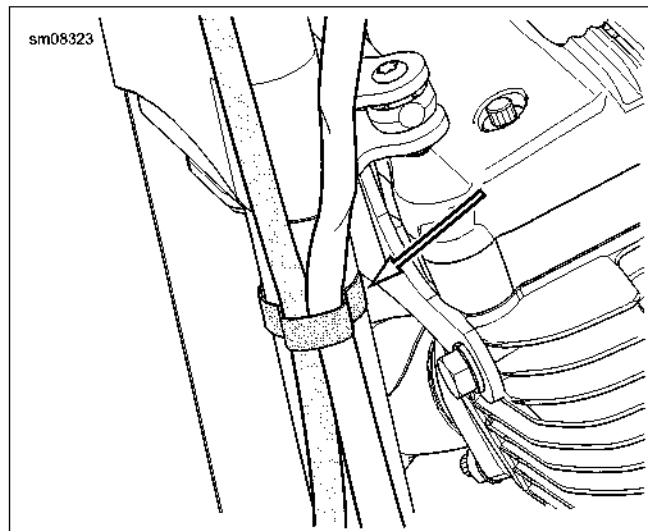

Figure 2-126. Non-ABS Clutch Cable Clip Orientation
2. **Non-ABS Models:** See Figure 2-126. Rotate the clutch cable clip back and up as far as it goes.